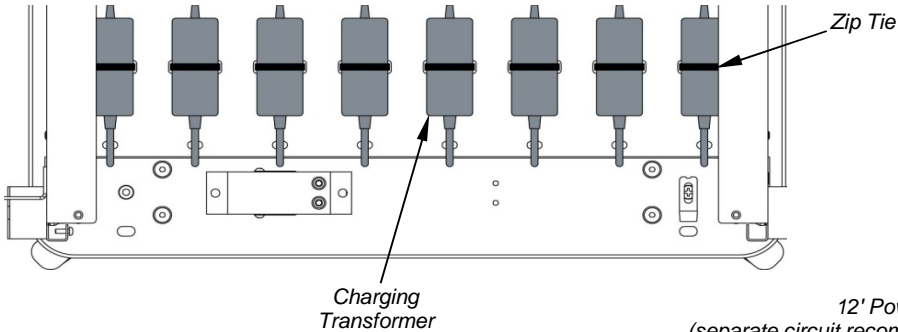

Figure 2A
- Attach the laptop charge transformers to the cord management trays using the included zip ties and cord management slots. **Figure 2A & 2B.** (Excess cords can be bundled with the transformer if necessary.)